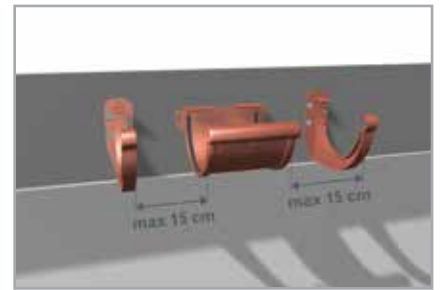

Fig. 12
- 3.5 Install a connector in places where two gutters are connected (**Fig. 12**)